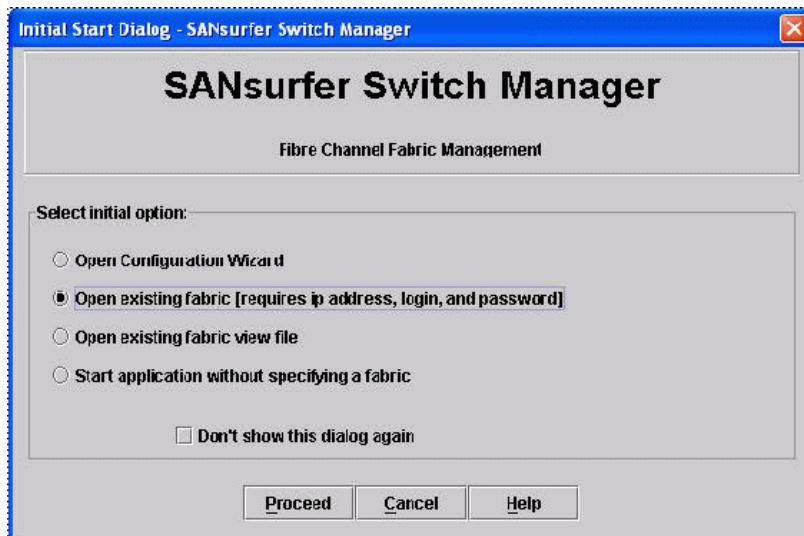

Figure 7-2 SANsurfer Switch Manager initial option window
2. The Initiate Start Dialog dialog box will appear. Click **Open Existing Fabric** and click **Proceed** to continue (see Figure 7-2).